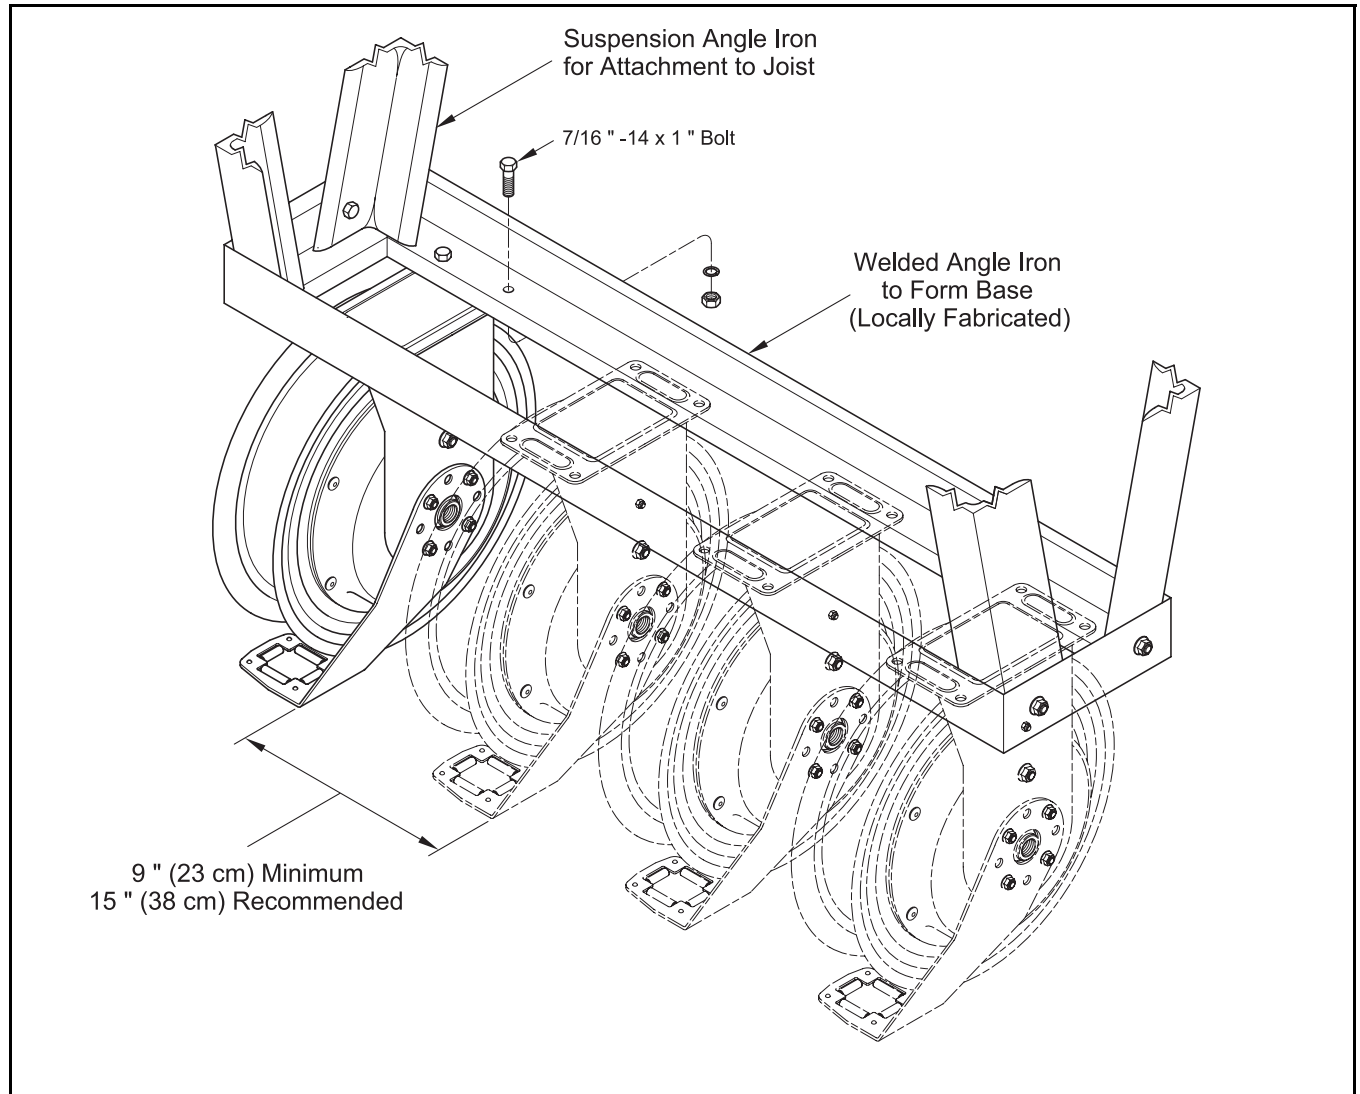

Figure 4 *Suspension Bracket for Ceilings Greater than 20 Feet (6.1 meters) - Typical*
3. Loosely attach the delivery hose to the Sheave Assembly with U-Bolt (23), Washers (22) and Wing Nuts (21).
*IMPORTANT: It is mandatory that these reels be installed at a height no greater than 20 ' (6.1 m) from the floor. Should the existing ceiling height be greater, mount the reel to a suspension bracket. See **Figure 4**.*